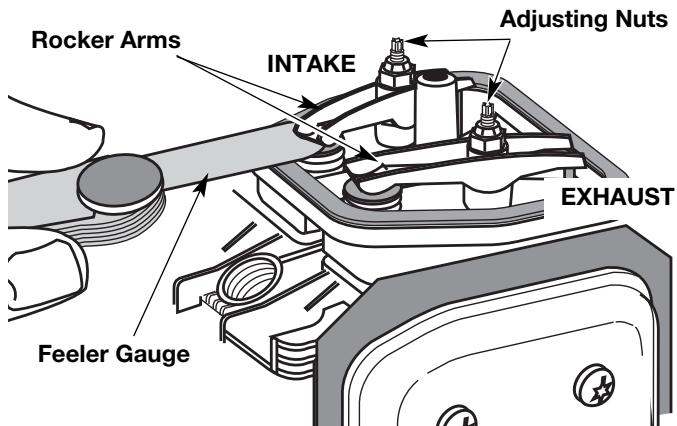

Fig. 26
8. Slide the feeler gauge between the rocker arm and the valve return spring. Measure the clearance between the valve stem and rocker arm. Measure both the intake and exhaust valves (Fig. 26 & 27).
The recommended clearance for both intake and exhaust is 0.003 – 0.006 in. (0.076 – 0.152 mm). Use a standard automotive 0.005 in. (0.127 mm) feeler gauge. The feeler gauge should slide between the rocker arm and valve stem with a slight amount of resistance, without binding. See Figure 26 and 27.
- The piston is at the top of its travel while looking in the spark plug hole (Fig. 26)